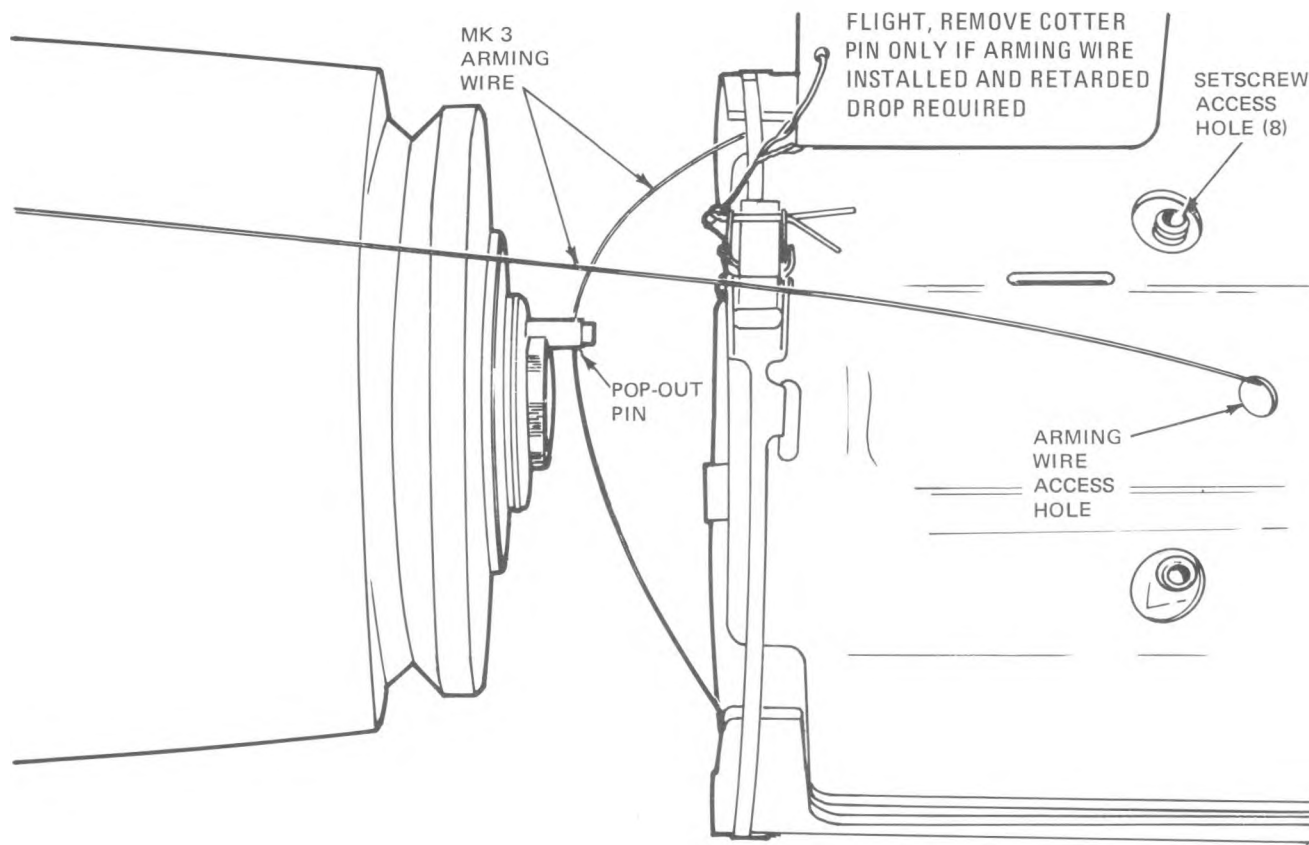

Figure 3-41. Routing of Arming Wire MK 3 — Mod 3 and Mod 4 Fins
7. Thread arming wire through pop-out pin of tail fuze (figure 3-41). Then pass wire through small hole at bottom of fin support.